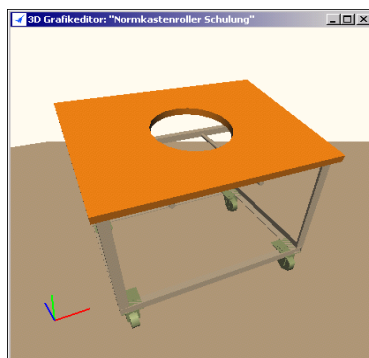

Figure 62: Example – Changing Plate with Bore
- 1) In the graphic, select the primitive of which you want to change the parameter. You can only select one primitive to be changed. *Please refer to the Figure 62.*